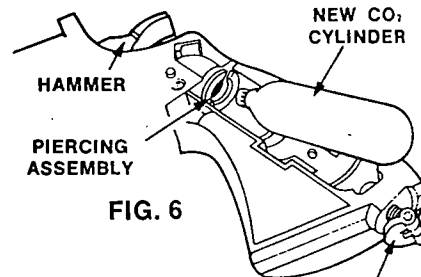

FIG. 6
- A. Insert the new CO₂ Cylinder into the Revolver with the small neck of the Cylinder pointing toward the Hammer. Fig. 6.